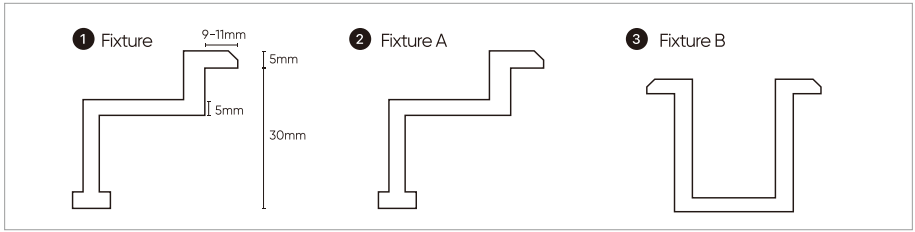
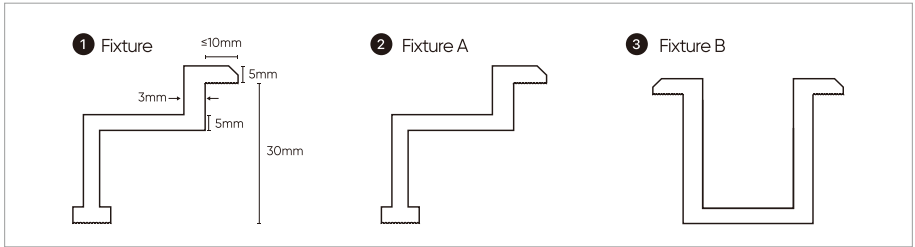

Figure 2: Fixture Diagram of regular PV Module
Figure 3: Fixture Diagram of high eff. PV Module
a) The regular module (with high eff. PV module, hybrid frame module) needs to be fixed to the photovoltaic bracket using a metal fixture (the fixture shown in Figure 2, Figure 3, Figure 4 is recommended) or other fixtures that have passed the industry tensile or environmental application test. The fixture is mainly used to secure the photovoltaic module. Therefore, when selecting the appropriate fixture, especially a custom fixture, ensure to conduct the load test on both sides to guarantee the safety and stability of the module.